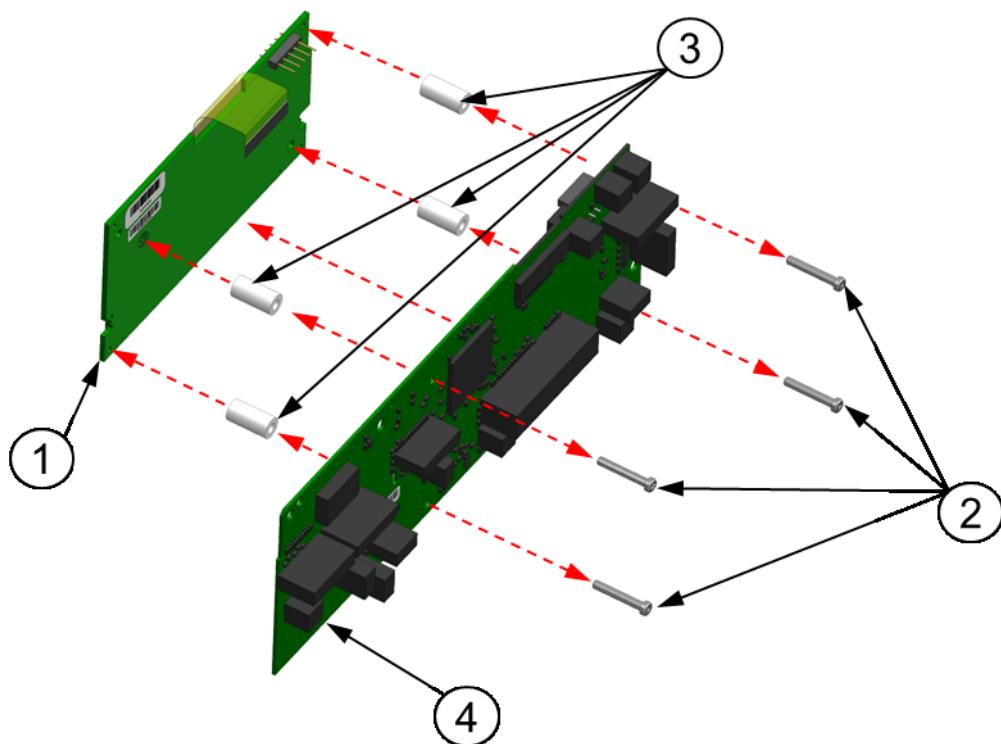

Fig. 41 Display board removal/installation
2. Disconnect the **Display board FFC ribbon** as shown in **Fig. 41**.
3. Using the **TB-3** screwdriver unscrew four **2,5x16 screws for plastics (2)** as shown in **Fig. 41**.
4. Remove **Display board (1)** and four **Plastic sleeves (3)** in the direction indicated by red arrows in **Fig. 41**.
1. Put four **2,5x16 screws for plastics (2)** through the **CPU board (4)** and four **Plastic sleeves (3)** and then using the **TA-41** torque screwdriver with the **TA-44** bit screw in four **2,5x16 screws for plastics (2)** opposite to the direction indicated by red arrow in **Fig. 41**.
2. Plug the **Display board (1)** FFC ribbon into the **CPU board (4)**.